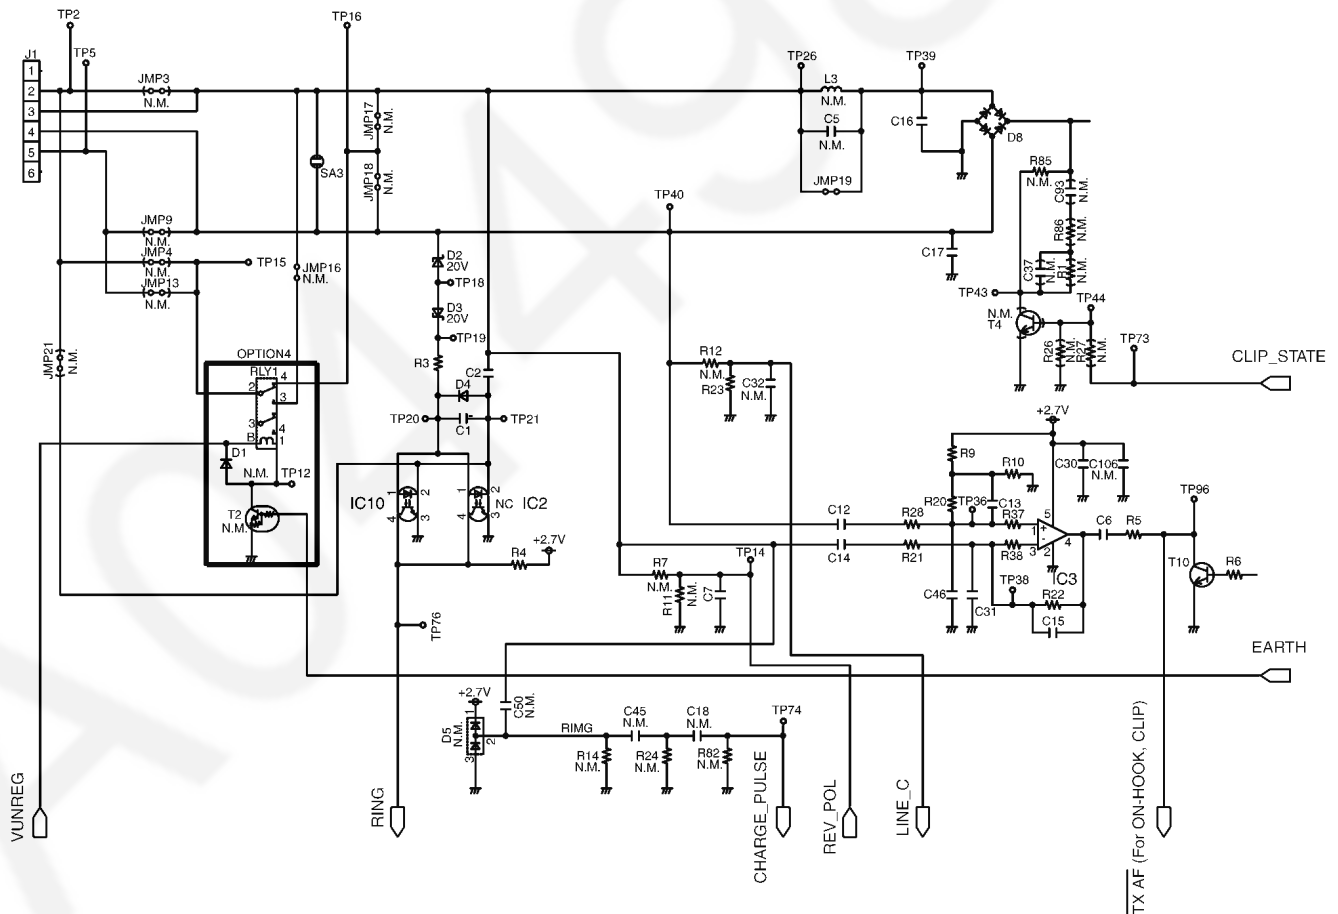

Fig.19
6.2.2. TELEPHONE LINE INTERFACE (SEE Fig. 19)
6.2.3. BELL DETECTOR (SEE Fig. 19)
6.2.4. CLIP CIRCUITS (SEE Fig. 19)